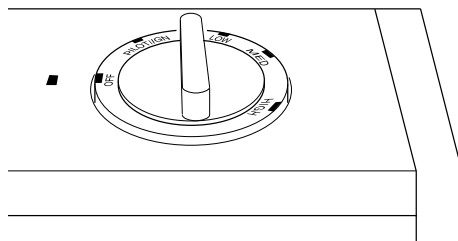

Figure 18 - Control Knob In The OFF Position
3. Turn control knob clockwise to the OFF position (see Figure 18).
4. Wait five (5) minutes to clear out any gas. Then smell for gas including near the floor. If you smell gas, STOP! Follow "B" in the safety information at left. If you don't smell gas, go to the next step.
5. Turn control knob counterclockwise to the PILOT/IGN position. Press in control knob for five (5) seconds (see Figure 18).